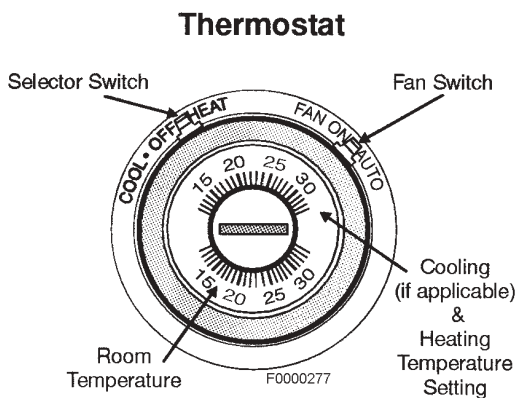

Figure 2
There are many types and styles of thermostats. Yours may look different from the one pictured in Figure 2, depending on the type of thermostat and whether cooling was installed with the system. However, almost all thermostats perform the same basic functions described in the following section.
There are two (2) switches located on the thermostat (see Figure 2). One switch controls the heating and cooling (if applicable) functions. The other switch is for "FAN" operation, either continuous or automatic. On the thermostat is the temperature range for the heating temperature and the cooling temperature desired.